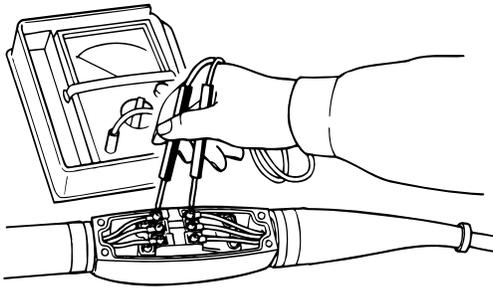

Figure 3. Switch Conduction Check
5. Turn the switch on and check conduction between terminals using a mega-ohmmeter (Figure 3).